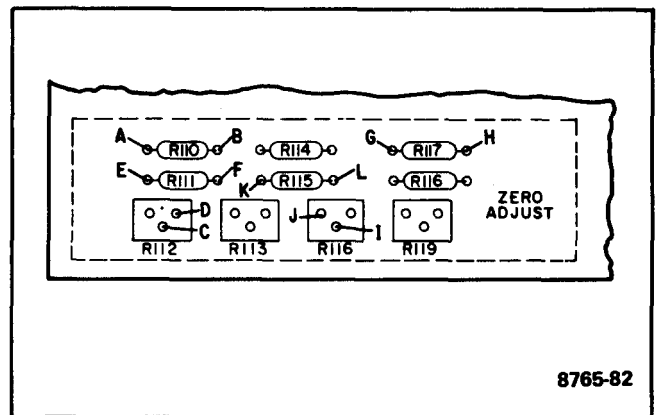

Figure 5-9. Zero Adjust Section of Main Circuit Board
- Connect decade resistance box between pads in zero adjust section of A1 main circuit board that are marked "A" and "B" in Figure 5-9. (These pads are for R110).
- Solder a jumper between pads in zero adjust section of A1 main circuit board that are marked "C" and "D" in Figure 5.9.
- Connect decade resistance box between pads marked "E" and "F" in Figure 5-9. (These pads are for resistor R111).
- b. Solder a jumper between pads in zero adjust section of A1 main circuit board that are marked "I" and "J" in Figure 5-9.
- c. Connect decade resistance box between pads marked "K" and "L" in Figure 5-9. (These pads are for R115.)